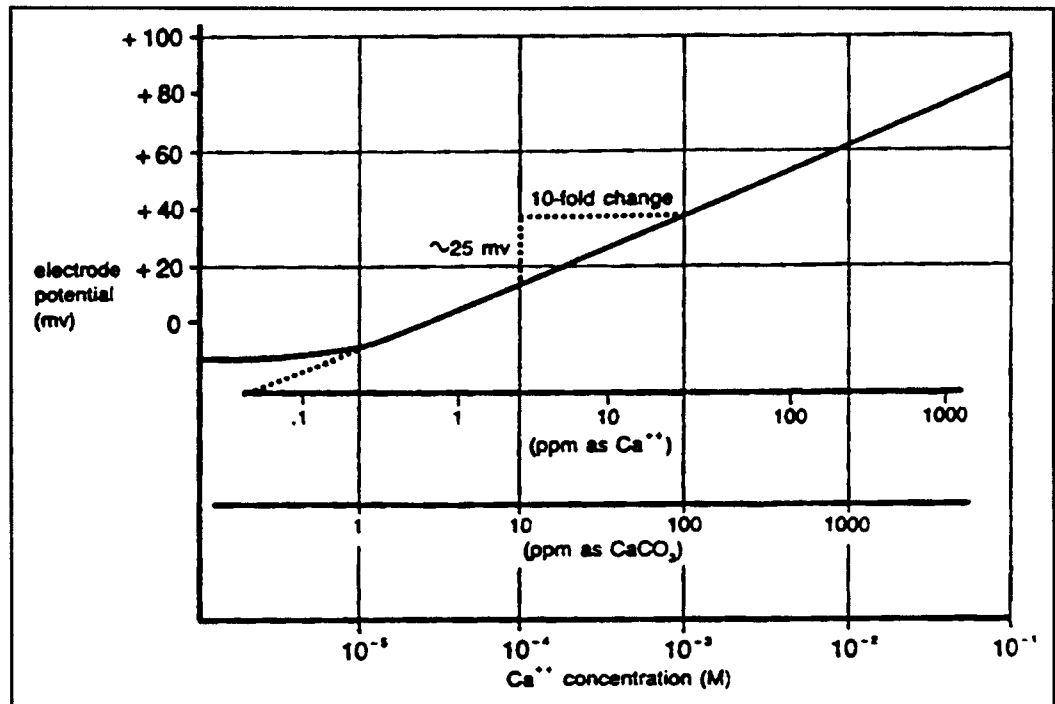

Figure 1. Typical Water Hardness Electrode Calibration Curve
5. Using the semi-logarithmic graph paper, plot the mV reading (linear axis) against the concentration (log axis). A typical calibration curve can be found in Figure 1.
7. On semi-logarithmic graph paper, plot the mV reading (linear axis) against the concentration (log axis) as in Figure 1.
Plotting the electrode mV potential against the calcium/magnesium concentration on semi-logarithmic paper results in a straight line with a slope of about 25 mV per decade. (Refer to Figure 1.)
The slight water solubility of the ion exchanger in the sensing module, which causes deviation from theoretical response, determines the lower limit of detection. The theoretical response at low levels of calcium/magnesium chloride compared to actual response was shown in Figure 1.